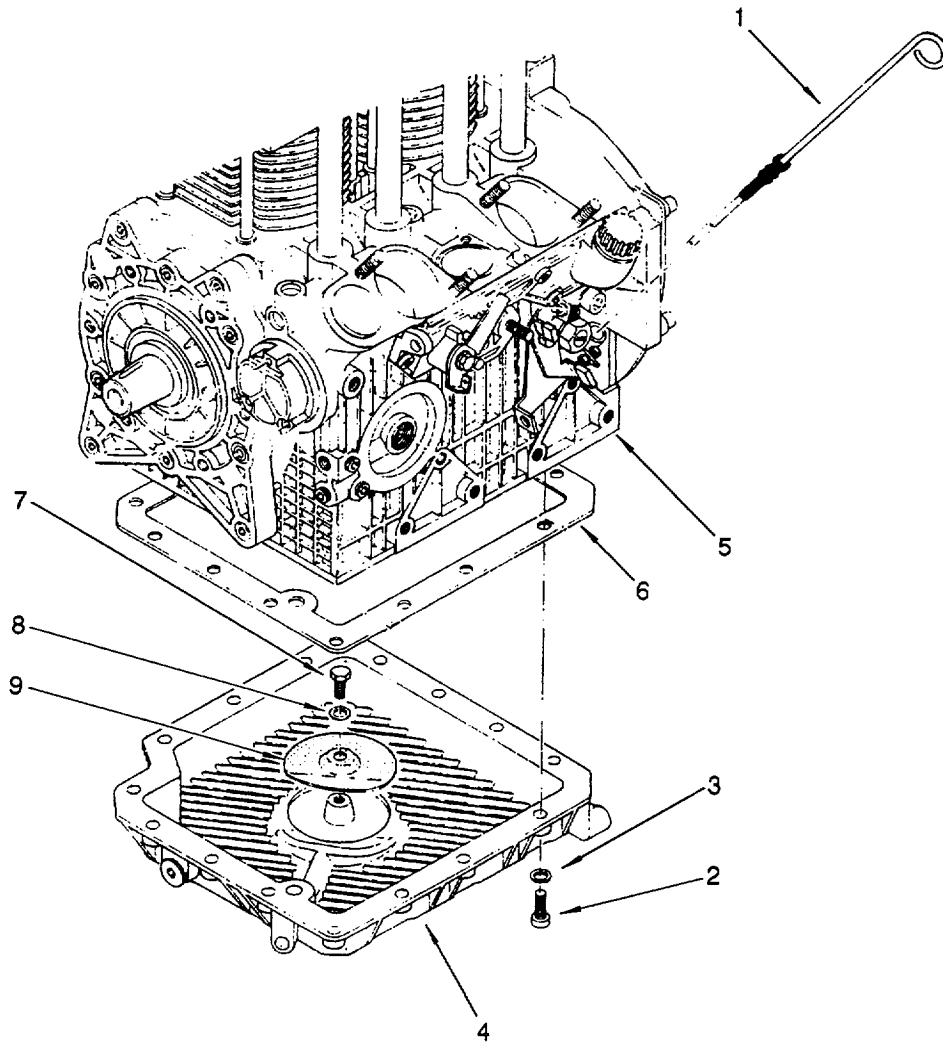

Figure 6-2. Engine Oil Pan Removal
6.3.1 Remove and Clean Oil Pan. (Refer to figure 6-2.)